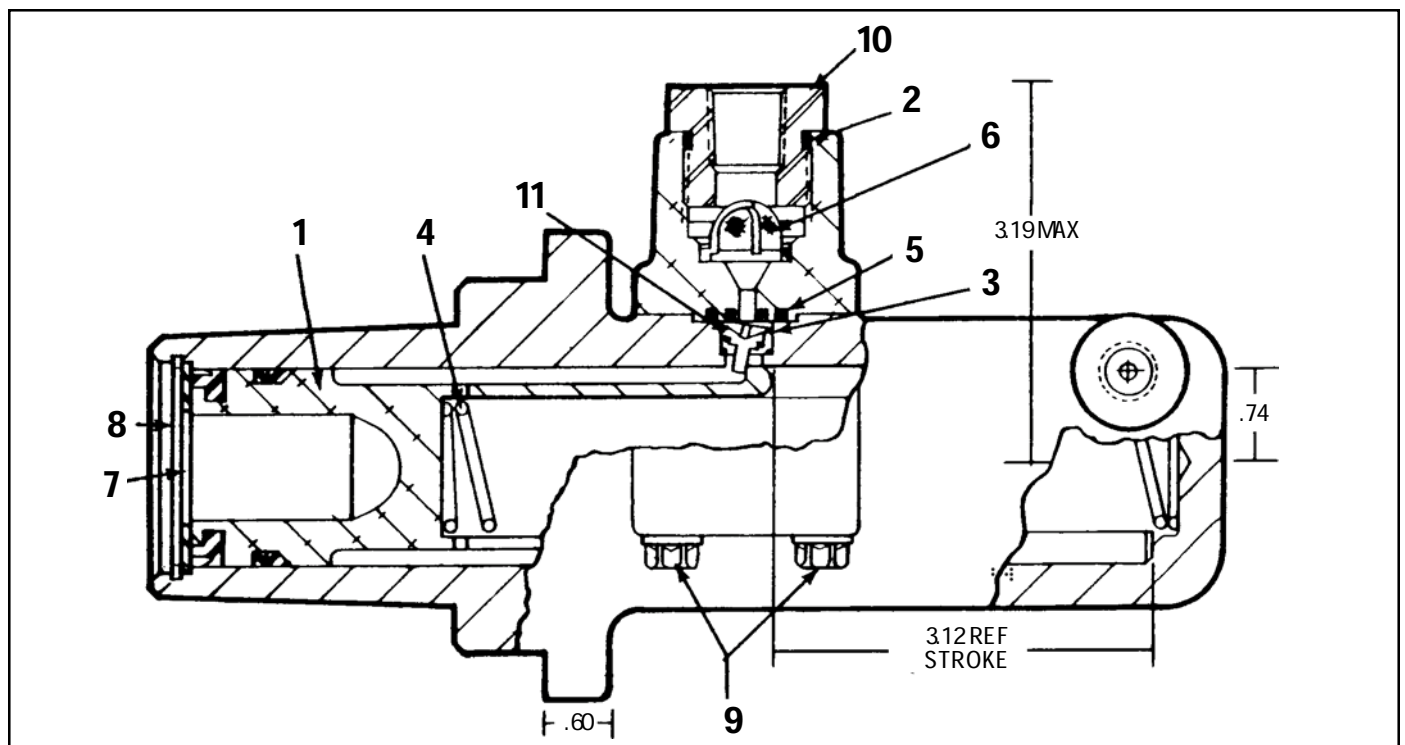
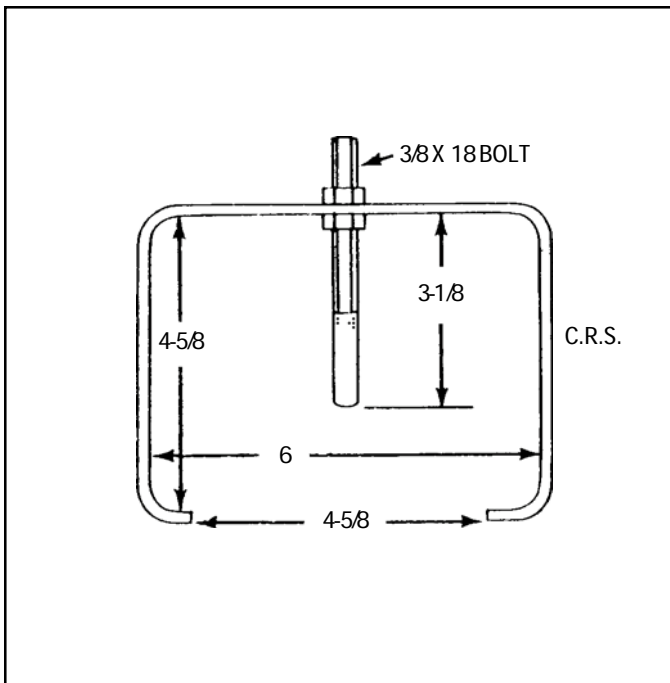

FIGURE 2
FIGURE 3
Master Cylinder FIGURE 2
2. Secure master cylinder in a vise. Depress piston (1) Fig. 2, at least 1/2 in. and hold. This may be done with a simple tool as shown in Figs. 3 and 4. Remove the four self-threading bolts (9) securing the adapter block or the reservoir to the master cylinder. Remove the adapter block or reservoir and the compensating valve (3) and spring (11).